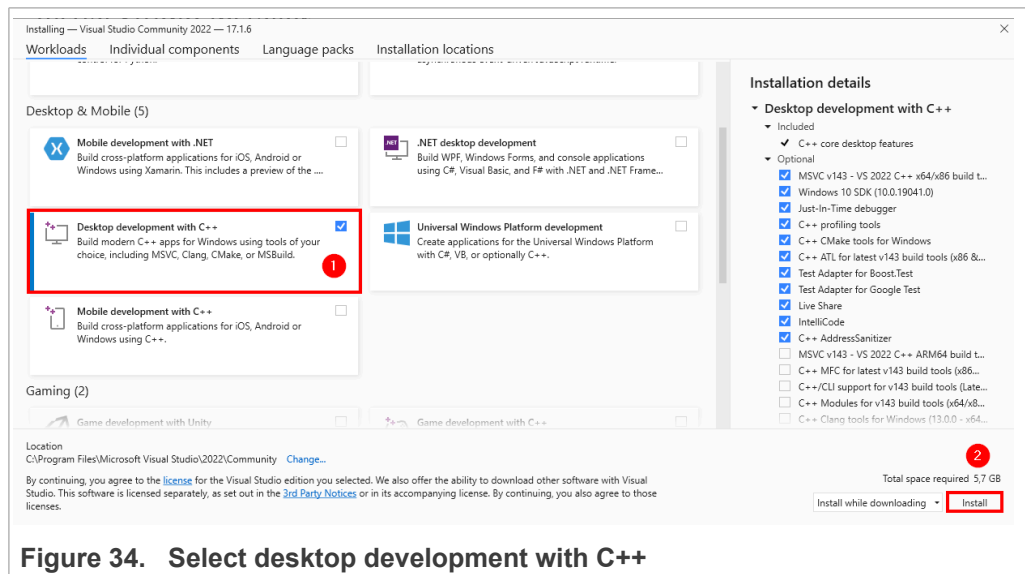

Figure 34. Select desktop development with C++
- As part of the Visual Studio setup, it is mandatory that you enable the installation of **Desktop development with C++**. Select (1) **Desktop development with C++** and (2) click install as shown in Figure 34: